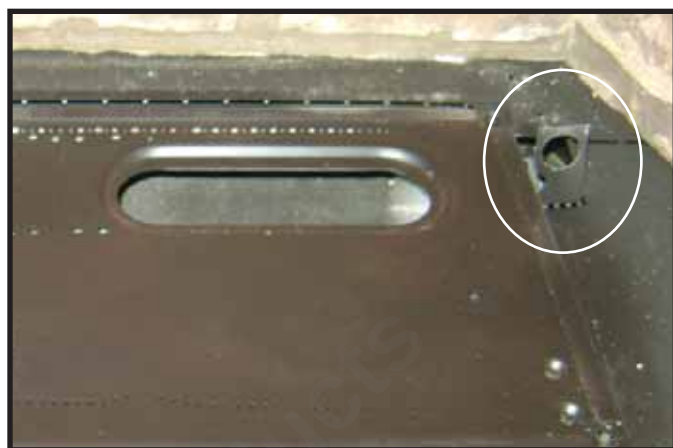

Figure 3.10 Grate Tab
9. Bend down grate tab at the right of burner assembly. Assembly will slide out to the right. See Figure 3.10.